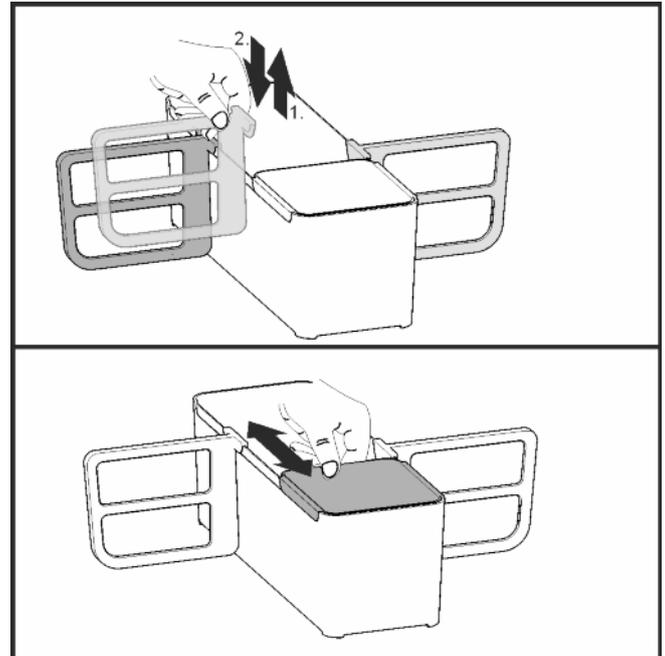

*Fig. 15*
- ▶ To insert the humidity control plate: Insert the cover mouldings of the plate into the rear holder *Fig. 15 (1)* from underneath and engage them in the holder *Fig. 15 (2)* at the front.